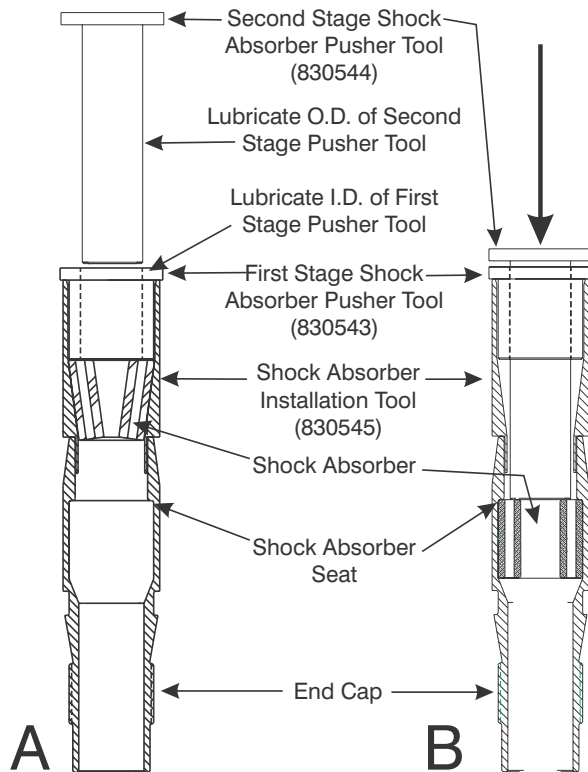

Figure 9-6. Press The Shock Absorber into The End Cap
7. Insert the the Second Stage Shock Absorber Pusher Tool, 830544, into the First Stage Shock Absorber Pusher Tool, 830543 as shown in Figure 9-6-A.
8. Press the Shock Absorber into the End Cap until it seats against the shoulder at the non-threaded end of the cap as shown in Figure 9-6-B.